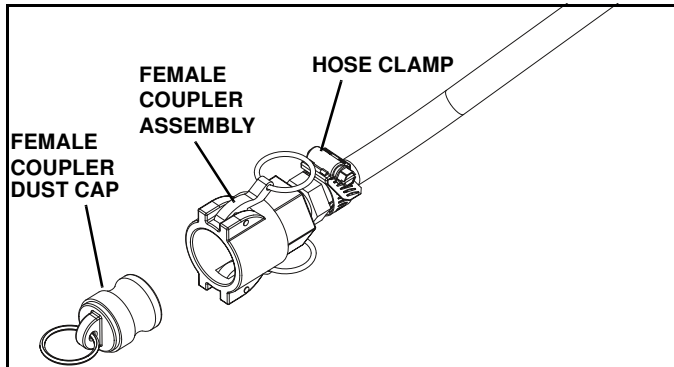

Figure 1-9
8. Push the barb end of the Female Coupler Assembly onto the open end of the hose and fasten with a hose clamp. (See Figure 1-9)